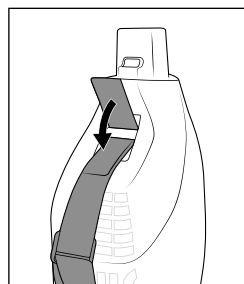

Fig. 5
- ◆ Feed the carrying strap **27** through the strap attachments **5/11** on the rear of the motor unit **8** and close the Velcro fasteners (see figs. 5 and 6).